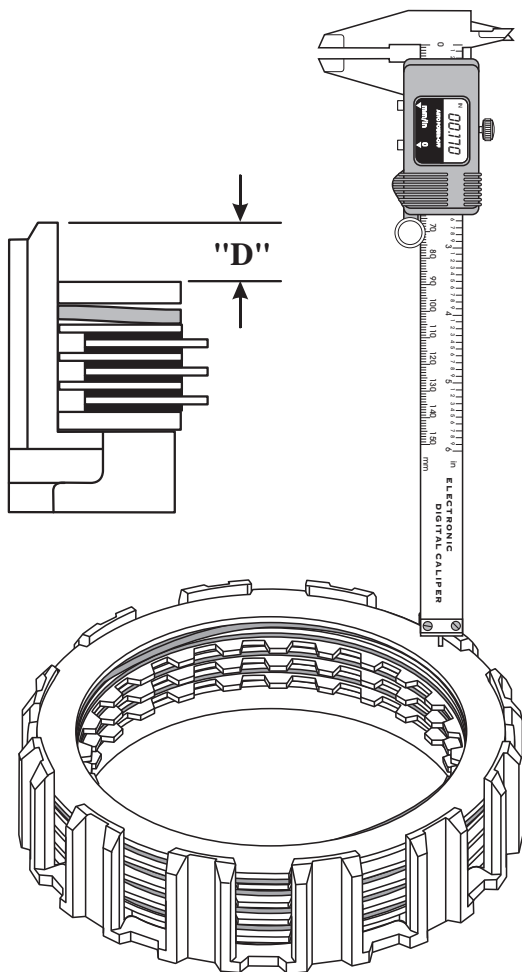

Figure 92
27. Measure the distance from the top of the coast clutch housing to the top of the coast clutch apply plate, as shown in Figure 92.